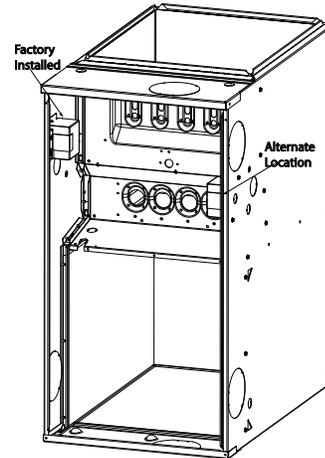

Fig. 24 - Relocating J-Box
1. Remove and save two screws holding J-Box. (See Fig. 24 .)
4. Remove and save two screws holding J-Box. (See Fig. 24.)